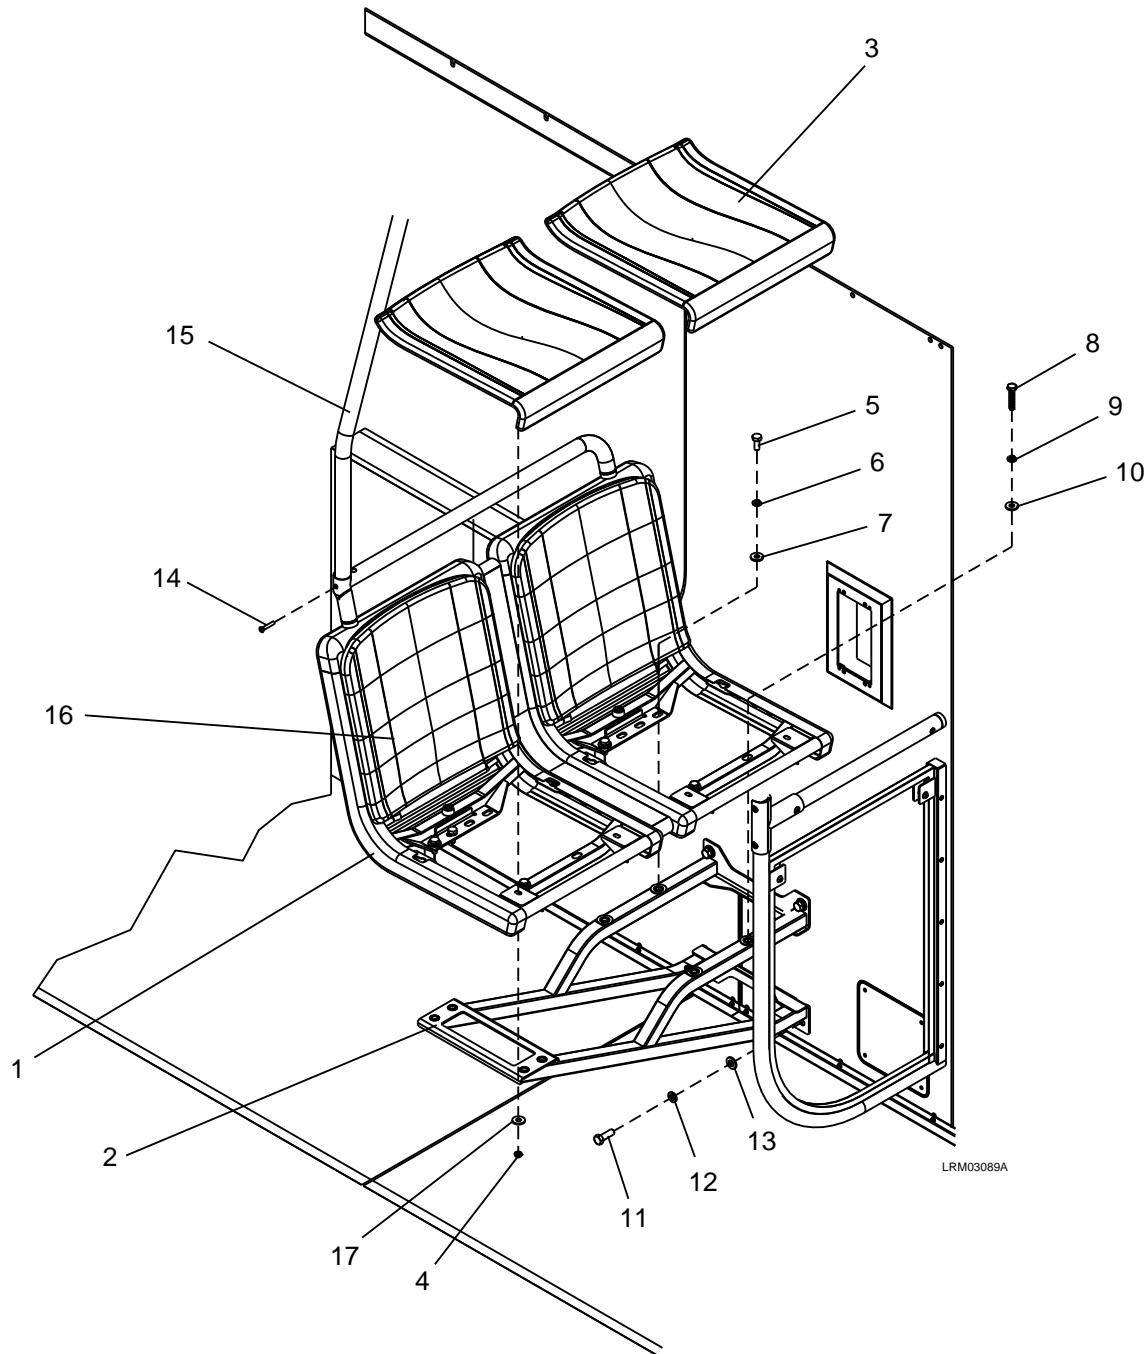

Figure 7-94: 2P LH & RH 34" Cantilever Door Pocket w/Grab Bar, w/Stanchion
1. Remove the attaching hardware (14) that mounts the seat assembly to the car grab pole (15). See Figure 7-94.
2. Remove four lock nuts (4) and flat washers (17) from the cushion assemblies (3).
3. Remove the cushion assemblies (3).